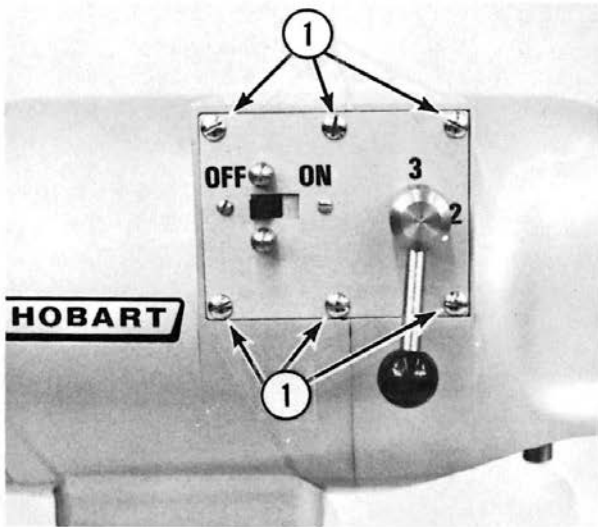

Fig. 3-1
A. Remove the six switch plate mounting screws (1, Fig. 3-1) and take off the switch unit.